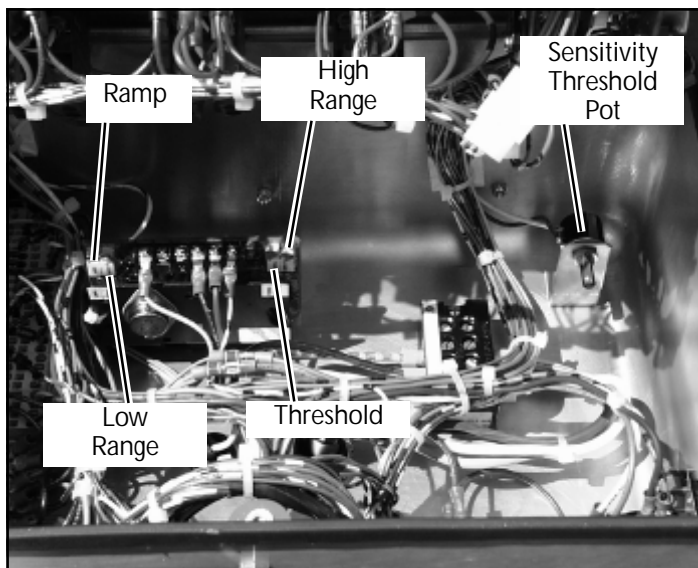

Figure 3-6: Upper Control Box
#### **PROPORTIONAL CONTROL ADJUSTMENT (Figure 3-6)**
1. Adjust sensitivity threshold pot (located in upper control box) to obtain an equal threshold between forward and reverse directions (Figure 3-6).